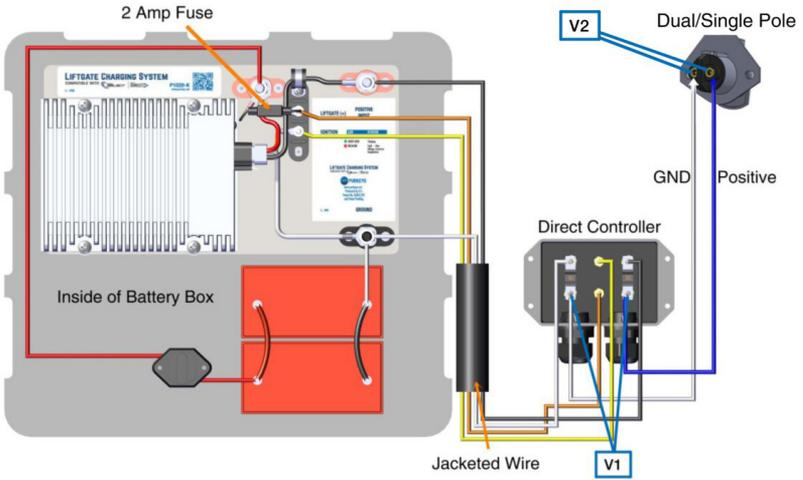

Figure 9
1. With the stinger cord still plugged in, and the tractor running, use a voltmeter to measure the voltage between the dual pole positive stud and the dual pole negative stud inside the Direct Controller (see V1 in Figure 9 or 10). It should read 13.8 volts or greater. If yes, and the light still is not solid green, call customer service, as the Direct Controller may be defective. If no, proceed to step 2.
2. With the stinger cord still plugged in, and the tractor running, use a voltmeter to measure the voltage between the positive and negative poles in the stinger receptacle (see V2 in Figure 9 or 10). It should read 13.8 volts or greater. If yes, repair or replace the wiring between the stinger and the Direct Controller. If no, measure the voltage at the truck battery. If the reading is greater than 13.8 volts, the issue is the wire from the stinger to the truck. If the reading is less than 13.8 volts, the issue is the charging system of the truck; allow the battery to charge or repair the charging system on the truck.